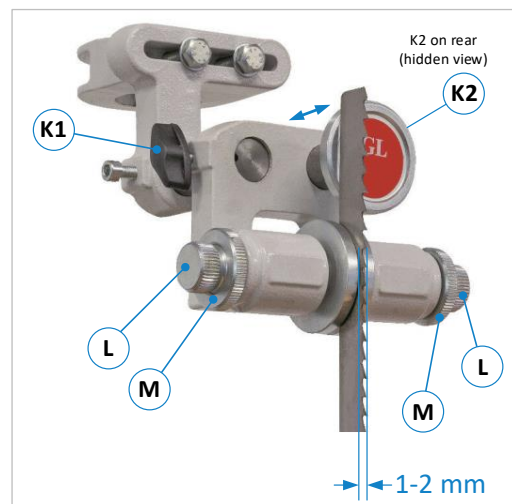

Figure 30: Adjusting the GL saw blade guides
- Loosen the tommy screw (**K1**) and adjust the complete guide on the support bolt (**B**) by moving it so that the front edges of the side rollers are approx. 1 - 2 mm behind the tooth base of the saw blade (see ⇒ Figure 30).